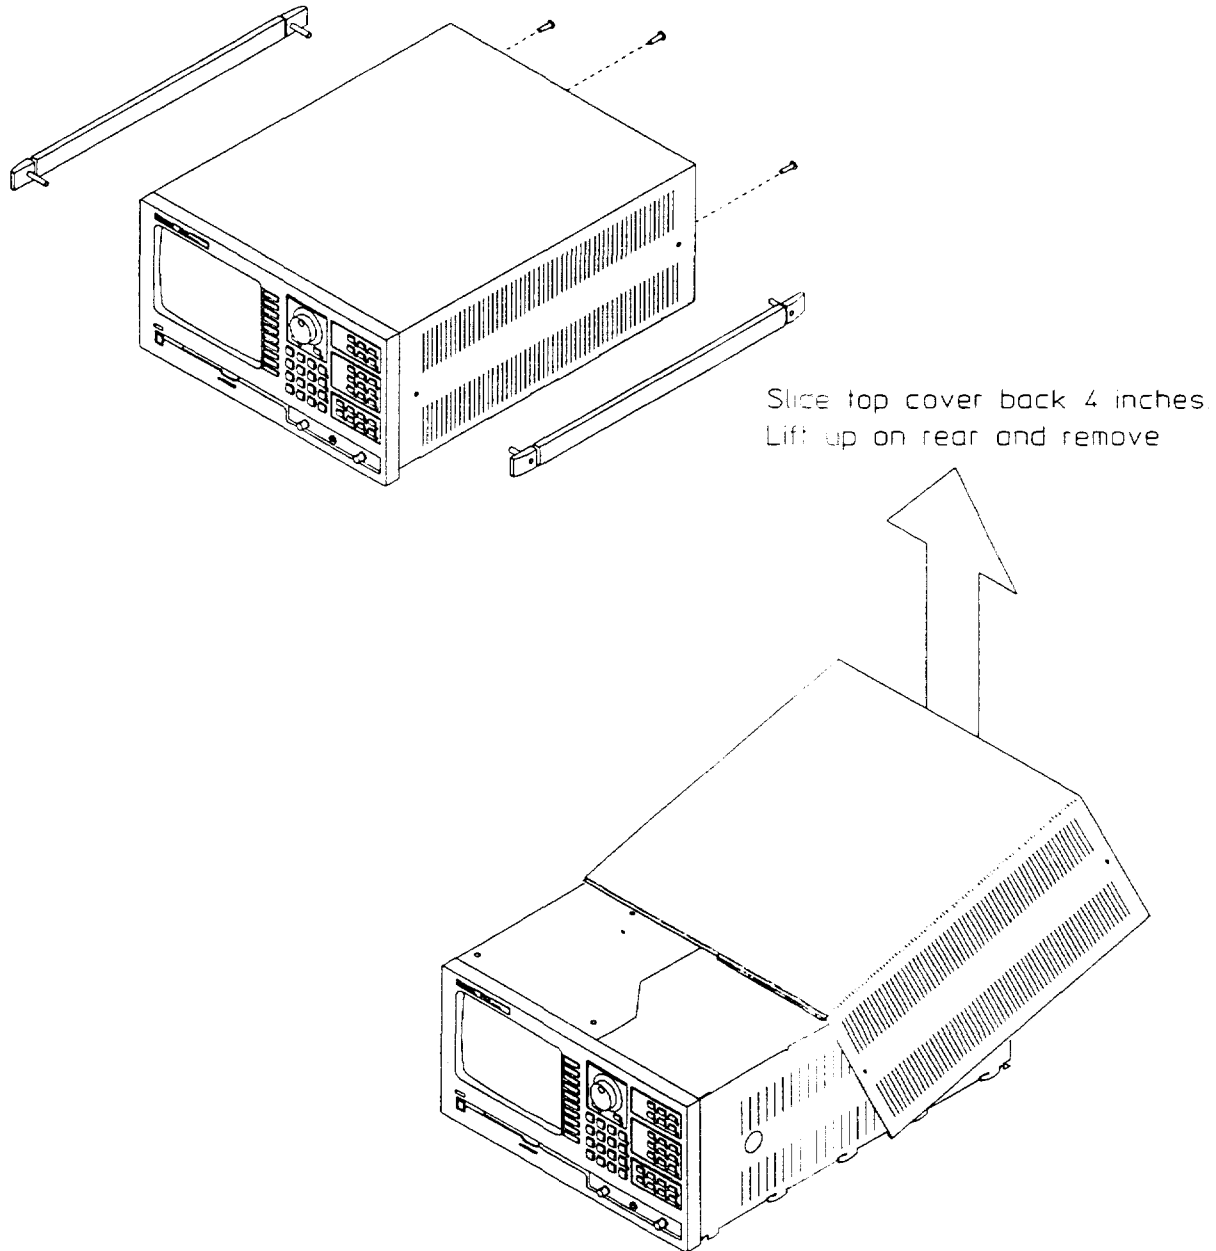

Figure 3-8. Removing Top Cover
1. Set the power switch to STANDBY (⓪) and remove the power cord. Remove the top cover (see figure 3-8).